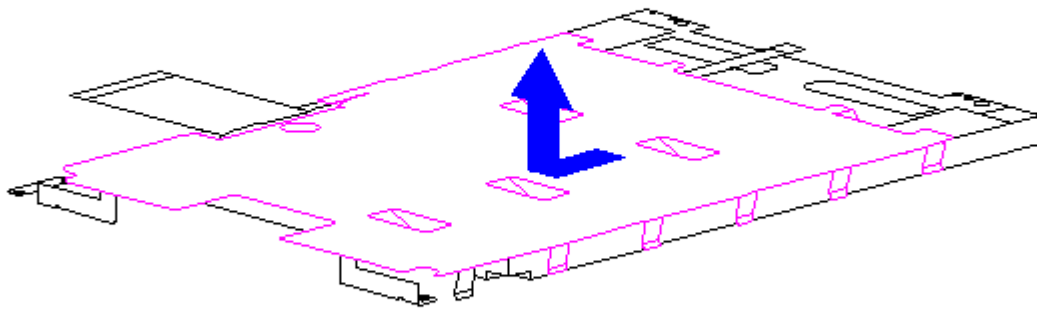

Figure 3-146. Removing the Display Shield from the CSTN (10.4 inch) Panel (Models 420 and 430)
15. Slide the display shield off the CSTN panel (Figure 3-146).